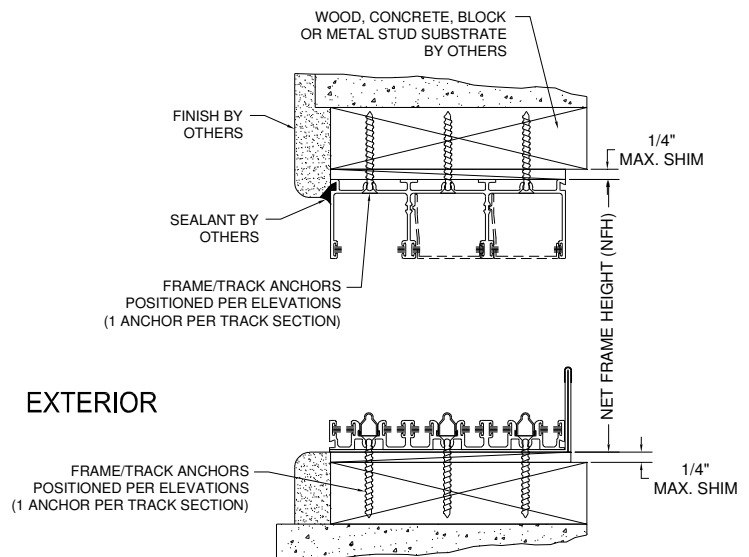

Figure 17:
- **Head & Sill** – Frame anchors spaced 5" from ends and then evenly on 16" (max.) centers. One frame anchor required per track per location. Example: 3-Track system requires 3 anchors per location at both the head and sill (Figure 17 and 18).